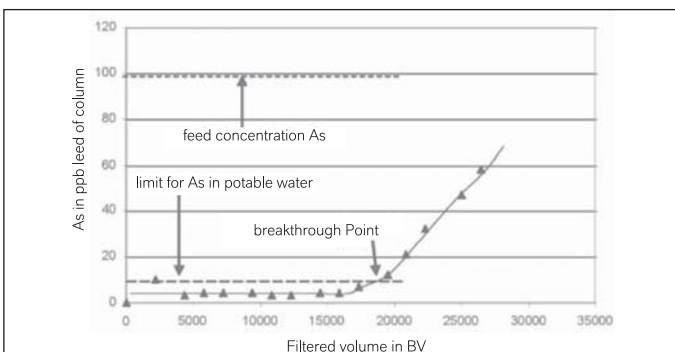

Figure 6: Lewatit® FO 36 Breakthrough Curve
The arsenic uptake of Lewatit® FO 36 depends on the concentration of arsenic present in the solution and in equilibrium with the adsorbent resin. This is presented in Figure 5, which shows the adsorption isotherm for As(V) uptake from demineralised water on Lewatit® FO 36. Under field conditions arsenic concentrations of 0.01 mg/l up to 0.1 mg/l are expected. It can be seen on Figure 5 that the equilibrium (static) uptake of arsenic in this range is 2.5-6 g of arsenic per litre of Lewatit® FO 36. Figure 6 shows the breakthrough curve of Lewatit® FO 36 under field conditions. After approximately 18,000